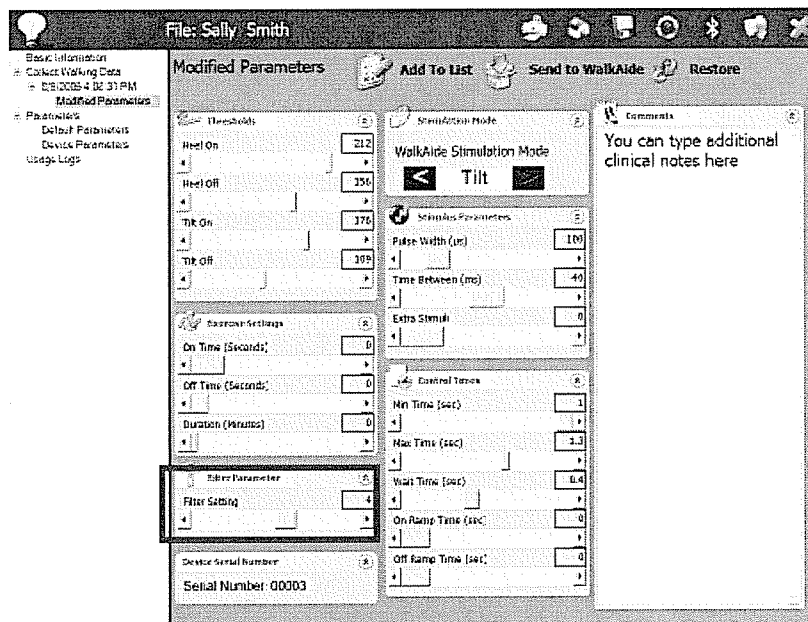

Figure 27 – Filter Setting.
3. Filter Parameter (Figure 27)